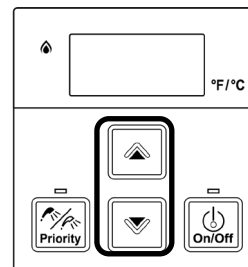

Figure 42
3. Use the ▲ (Up) and ▼ (Down) buttons to scroll to the desired information described in Table 23: Performance Data Table. (Figure 42)